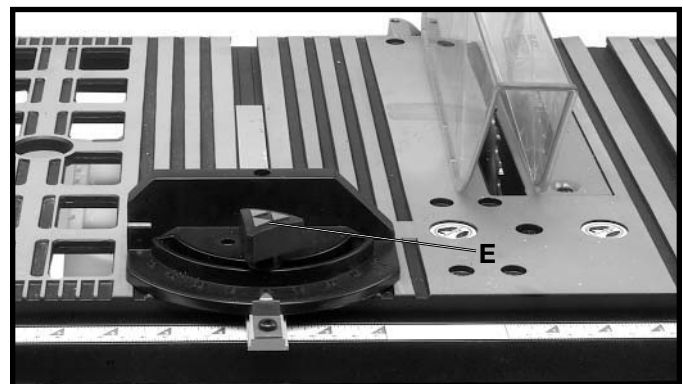

Fig. 38
To operate the miter gage, loosen lock knob (E) Fig. 38, and move the body of the miter gage to the desired angle.